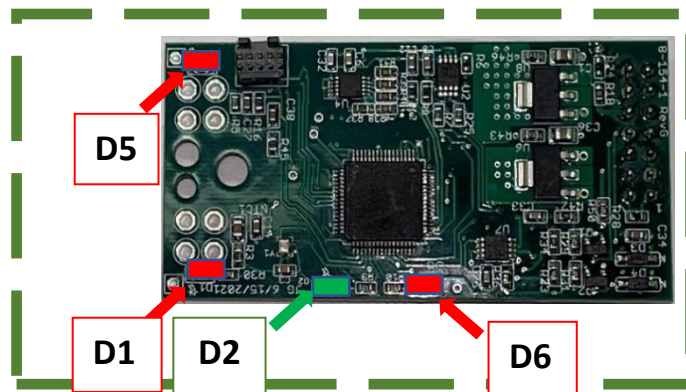

**Figure 6**
**Figure 6** shows the Options Board, sub-boards, and connection receptacles.